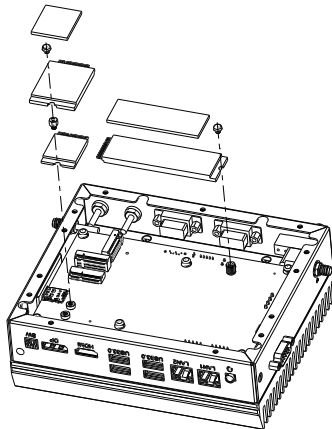

Figure 3-3-1
1. The installation methods for wireless module, M.2 2280 NVMe module, and M.2 2242 modules as shown in Figure 3-3-1: